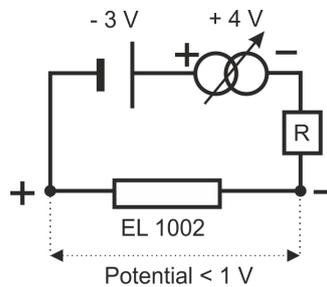

Fig. 24: EL1002 in series connection with a battery and an external power supply in reversed connections.
Usually, a cathode (positive terminal) of a battery is connected to the + terminal of the EL1002 during discharge. However, during charging (Fig. 24 & Fig. 23 b,c,d), the anode (negative terminal) of the battery is connected to the + terminal of the EL1002. Therefore, this is also referred to as the reversed connection of a battery to the EL1002.
Fig. 24 shows the same connection scheme as shown in Fig. 23c. Here, the EL1002 will read a potential of less than 1 V between its + and – terminals. The potential applied by the external power source should be increased up to a certain extent so that the total potential across the + and – terminals of EL1002 becomes higher than 1 V after compensating for both the opposing battery potential as well as the voltage drop (R). This scenario is shown in 23d.